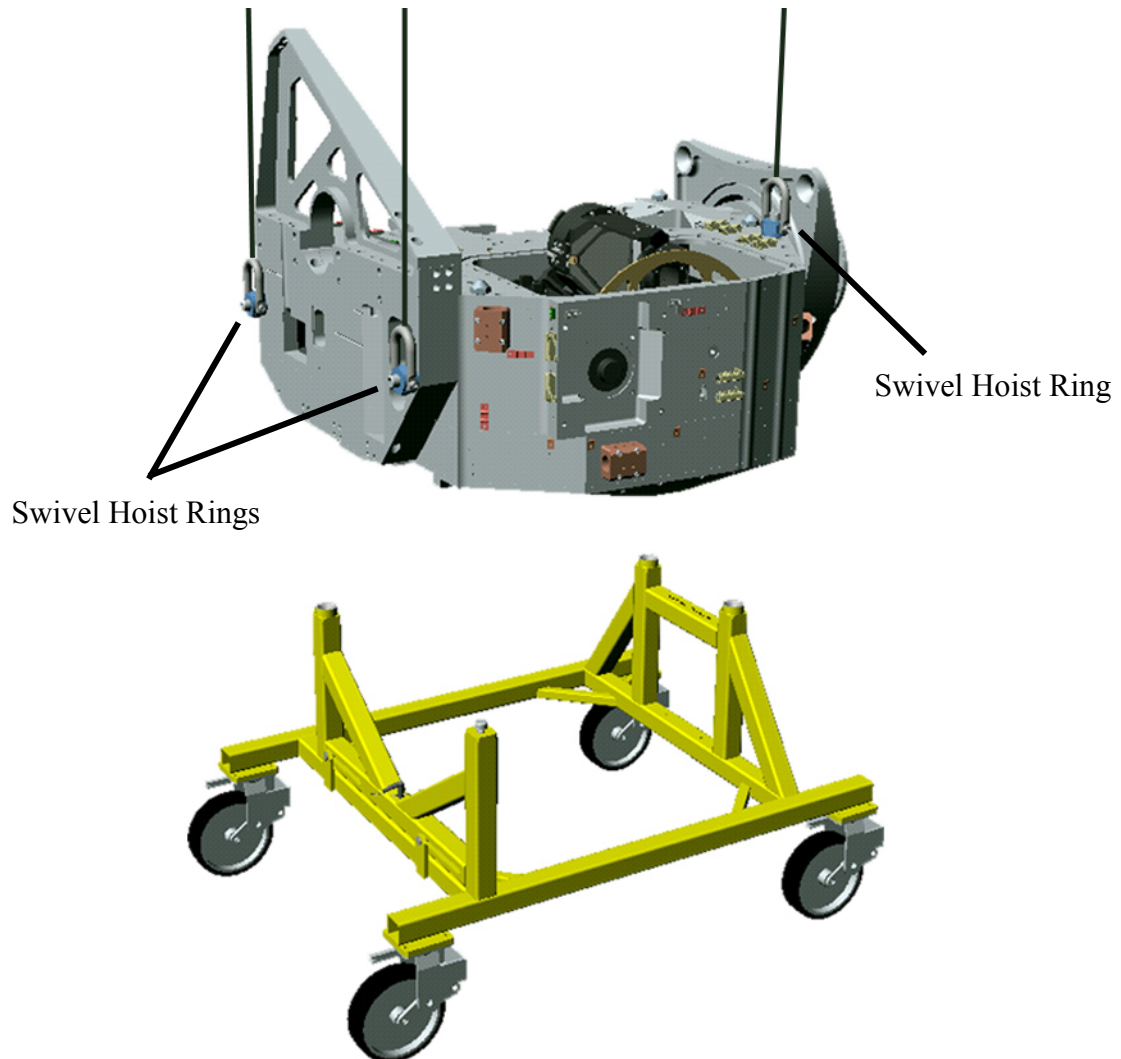

Figure 8.5.4.1. Attach Swivel Hoist Rings (3) and lifting straps. Lift optical bench from handling cart.
Figure 8.5.4.2. (Left) Rotate Main Optical Bench by lowering aft end until vertical and disconnect lower strap, (Right) reconnect strap to other side and lift aft end until Main Optical Bench is horizontal.
- A) Attach four Swivel Hoist Rings onto the Main Optical Bench at the locations shown in Figure 8.5.4.1.
Figure 8.5.4.3. Lower Optical bench onto handling cart. Slide adjustable frame on handling cart to opposite side to enable cart to align with conical hard points on Main Optical Bench.